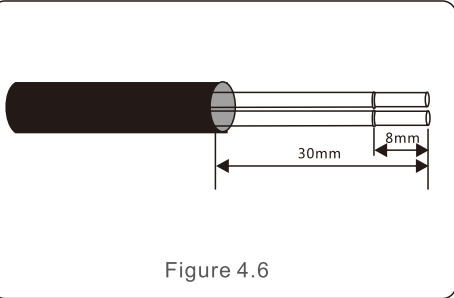

Figure 4.6
- a. Strip the insulation and shield to a suitable length. Use diagram below as a guide. (in Figure 4.6).
- d. Pull down the terminal block on user interface board(See Figure 4.6).
- e. Firstly insert cable into terminal board, then tighten the screws (dotted area) clockwise with slotted screwdriver; if user need to pull out cable, screws rotates anticlockwise with slotted screwdriver(See Figure 4.6).